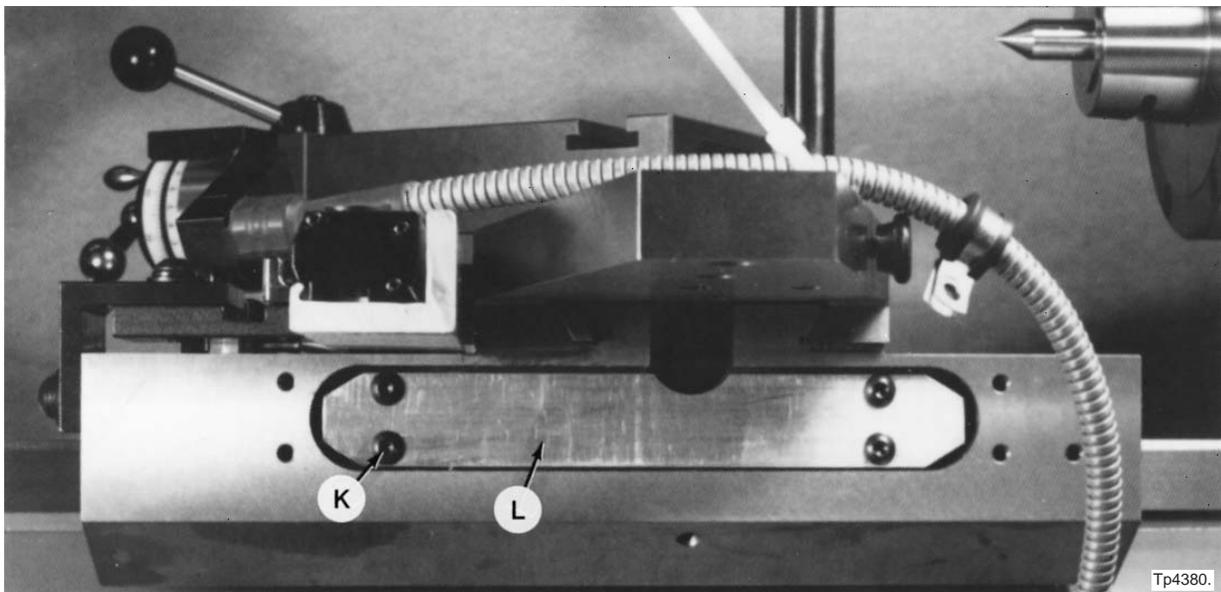
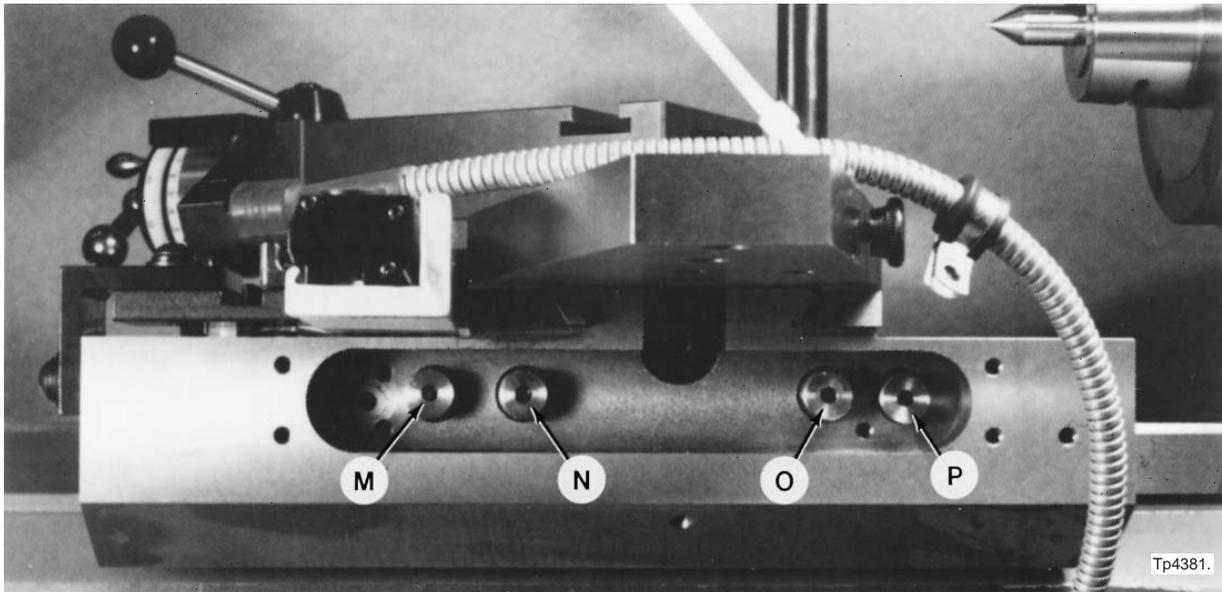

Figure 1.54 - Lubricator Junction Box
Figure 1.55 - Oil Feed Tube Assemblies in the Carriage
16. Remove four screws "K" and junction block "L", Figure 1.54, to gain access to oil feed tube assemblies "M", "N", "O", and "P", Figure 1.55 .
Oil feed tube assemblies "M" and "P", Figure 1.55, feed oil to the channel in the bottom of the carriage.
27. Remount lubricator junction block "L" using four screws "K", Figure 1.54 .